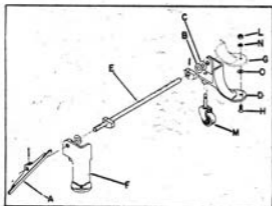

Fig. 6
7. Place spring washer (B), fiber washer (C) and caster mount bracket (D) on opposite end of shaft (E) Fig. 6. NOTE: The fiber washers (C) are to be used as shims. These washers can be placed on the shaft end opposite the foot lever and between the spring washer (B) and caster mount (D) Fig. 6.
8. Place caster mount bracket (D) and (F) with shaft (E) and foot lever (A) inside and under steel stand legs (G) Fig. 6.
9. Insert flat head machine screw (H) through hole in bracket (D) and through washer (O) steel stand leg (G) and fasten in place with washer (N) and nut (L) Fig. 6. Do not tighten nut securely at this time.
10. Fasten the other bracket (F) Fig. 6, to the steel stand in the same manner and tighten both nuts (L) securely.
11. This same method of application is to be followed in assembling shaft to opposite pair of steel legs. The caster (M) can then be assembled to the attachment.